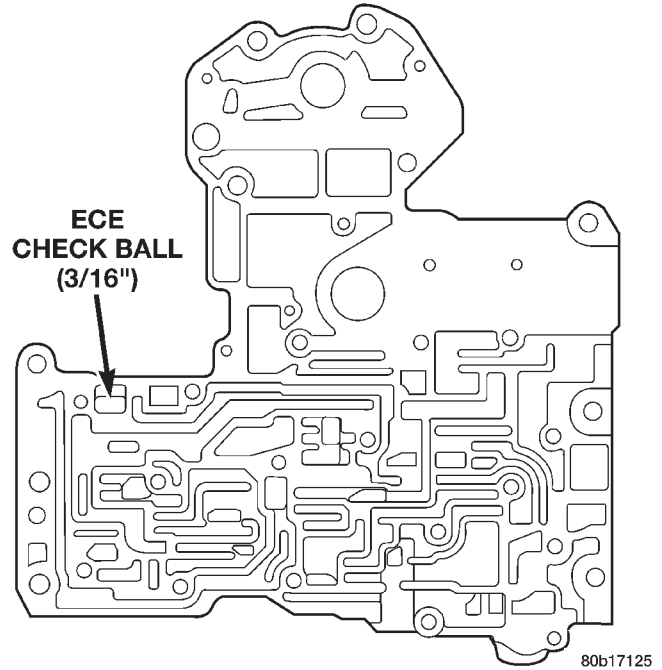

Fig. 68 ECE Check Ball
(31) Remove the ECE check ball from the transfer plate (Fig. 68). The ECE check ball is approximately 4.8 mm (3/16 in.) in diameter.
(3) Install the ECE check ball into the transfer plate (Fig. 68). The ECE check ball is approximately 4.8 mm (3/16 in.) in diameter.